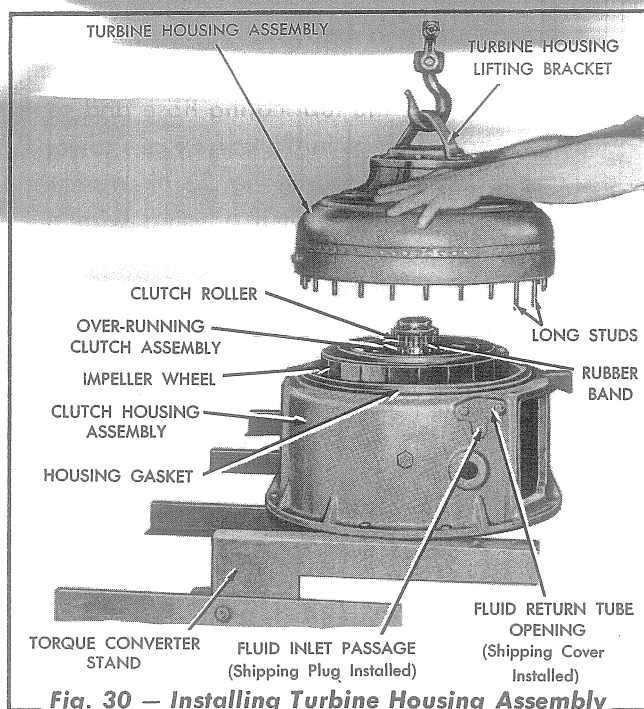

Fig. 30 — Installing Turbine Housing Assembly Onto Clutch Housing Assembly
- a. Position the clutch housing, flanged end down, as shown in Fig. 30. If no stand is available, use suitable blocking so that the end of the input shaft will clear the work bench and the shaft will be accessible for rotating.
- c. Raise the turbine assembly with a suitable hoist and position it over the clutch housing so that the two long studs in the turbine housing will enter the holes on each side of the fluid return tube opening in the clutch housing (Fig. 30).